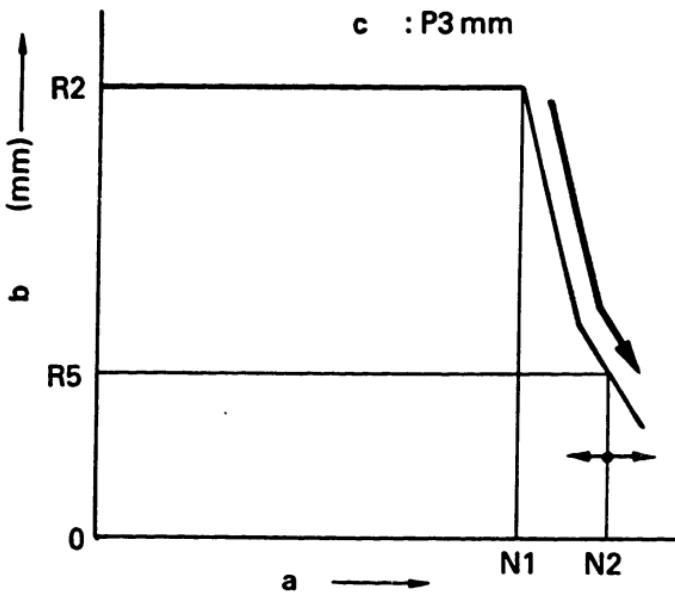

Fig. 72
3. Increase pump speed and check that the pump speed at control rack position R5 is N2. (Fig. 72)